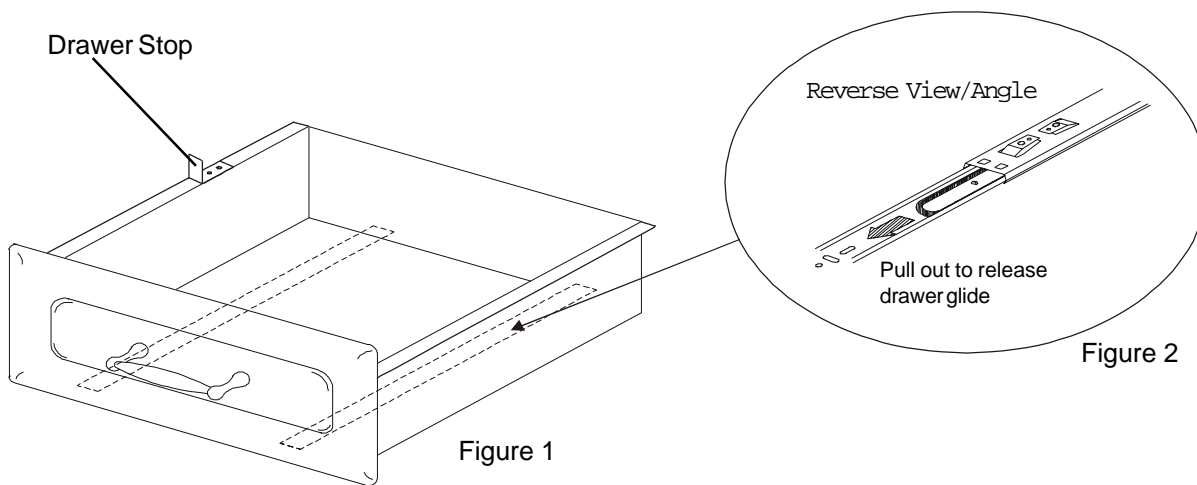

Figure 1
4. With the aid of a flashlight, locate and remove the drawer stop at the left side of the drawer by removing the two screws. (see figure 1).